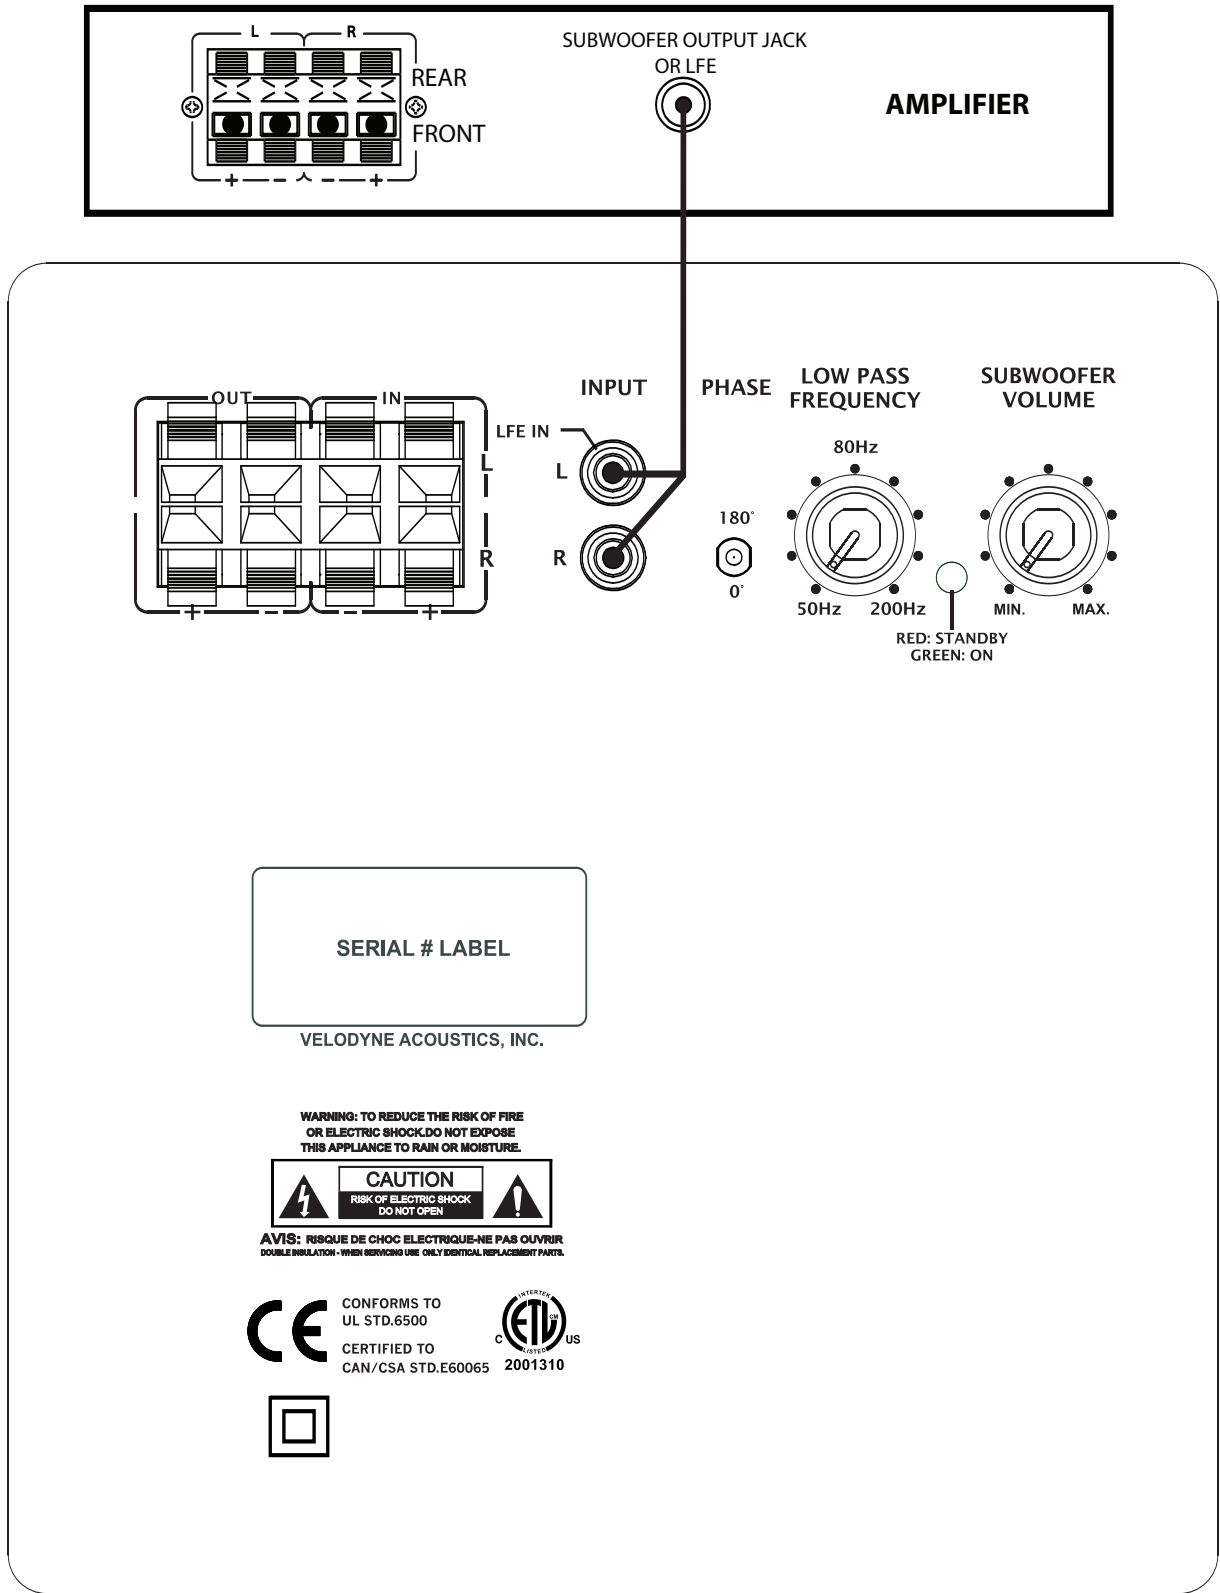
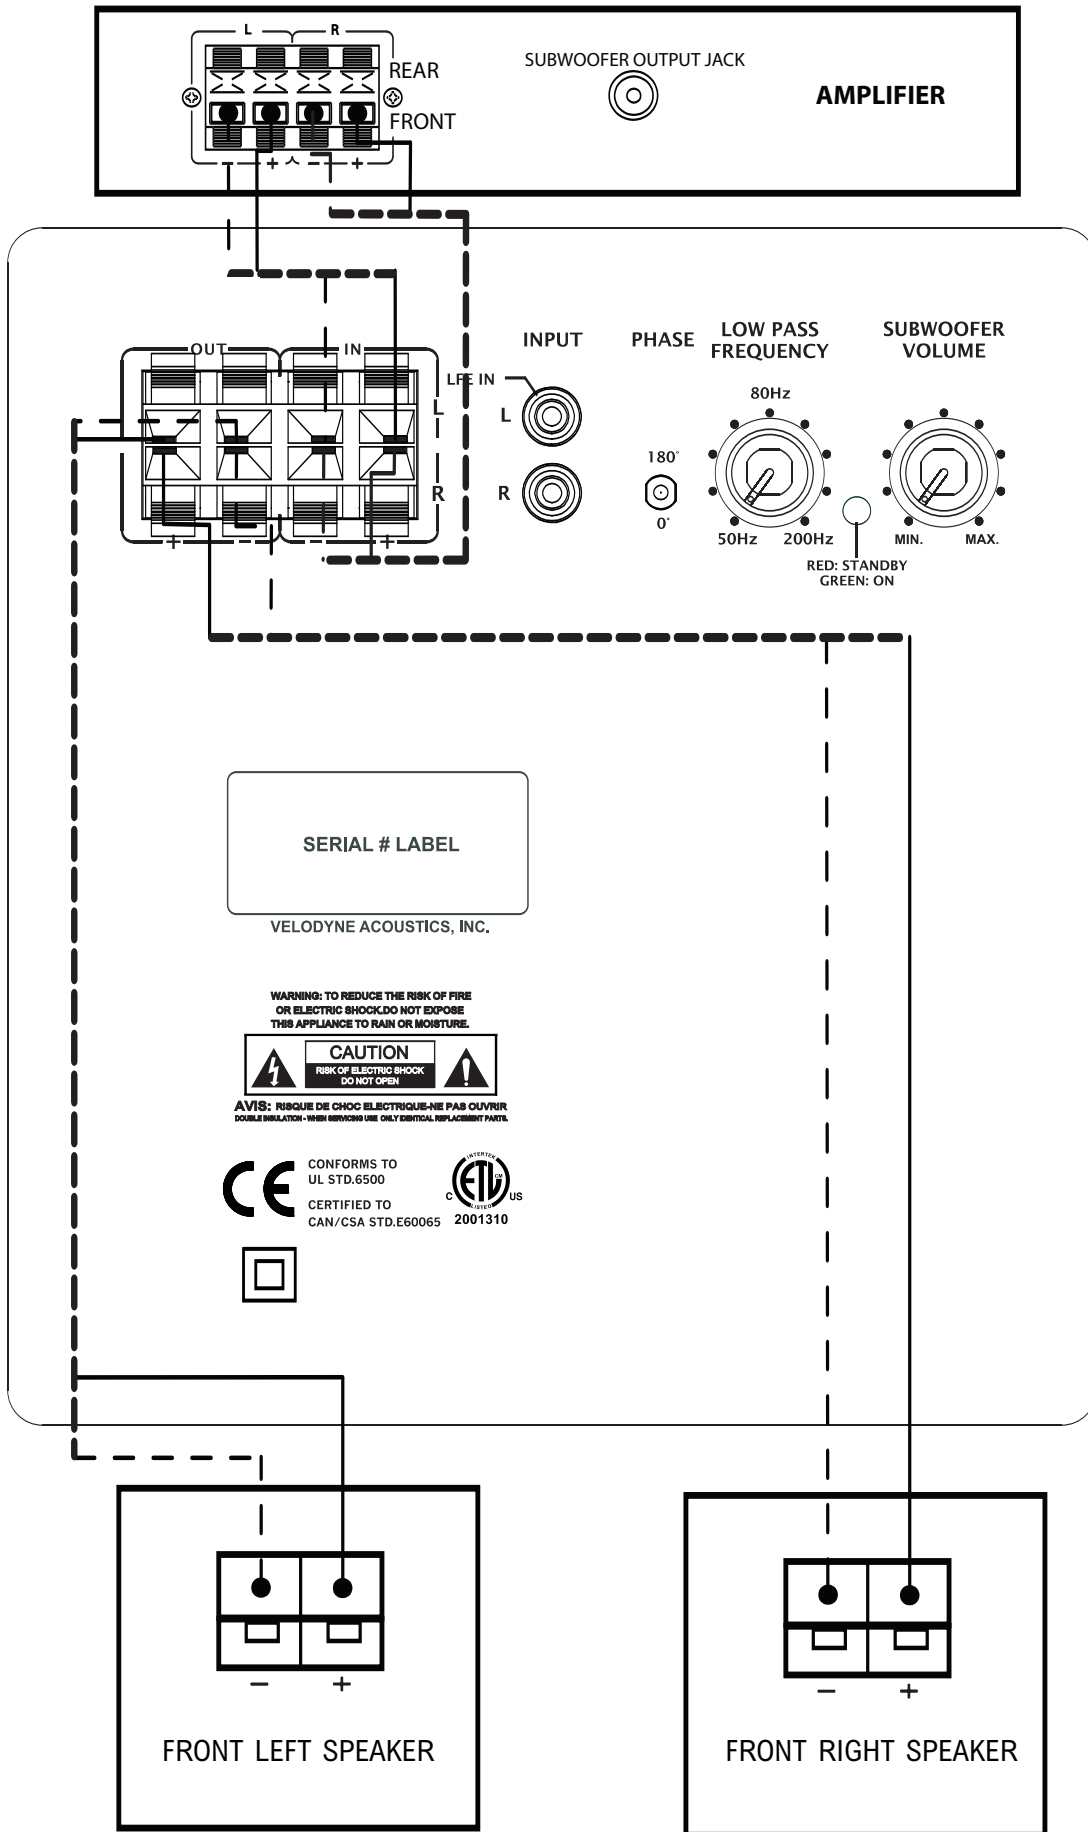

Figure 2a. Line-level subwoofer connection diagram.
Figure 2b. Speaker-level subwoofer connection diagram.
*(Refer to Figure 2a Line-Level Subwoofer Connection Diagram and Figure 2b Speaker-Level Subwoofer Connection Diagram, pages 7 and 8 for connection diagrams.)*